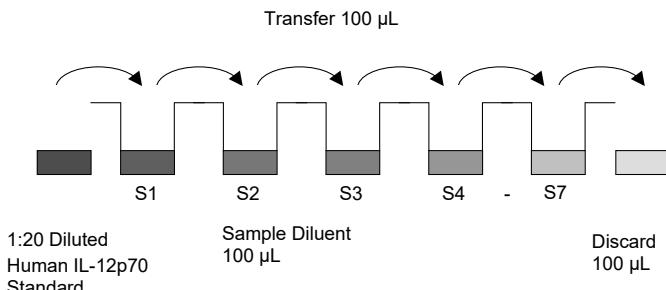

Fig. 9 Standard dilutions in microwell plate
- c. Mix the contents of wells A1 and A2 by repeated aspiration and ejection (concentration of standard 1, S1 = 10.00 pg/mL), then transfer 100 µL to wells B1 and B2, respectively (see Figure 9). Do not scratch the inner surface of the microwells.